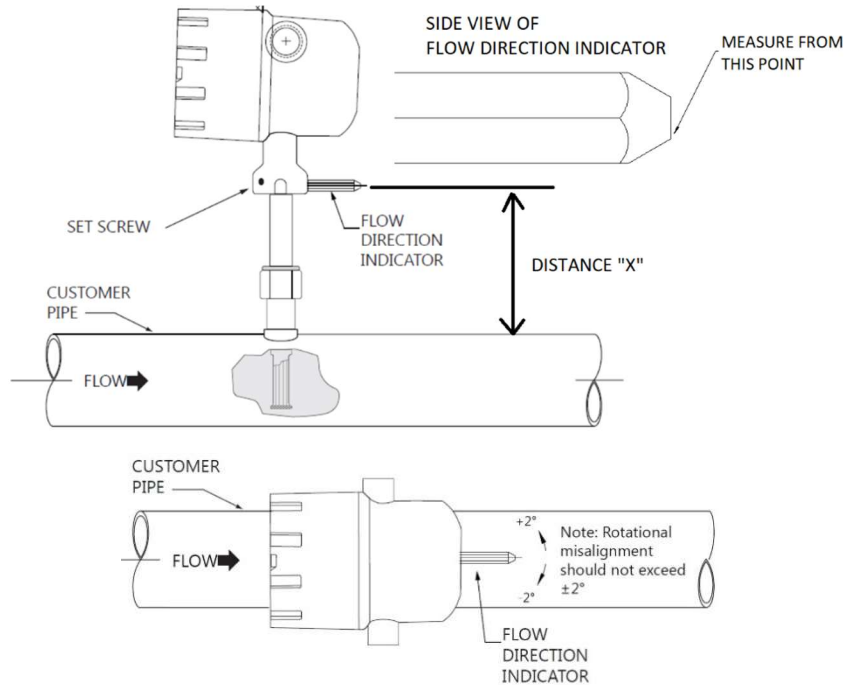

Figure 5: Meter Inserted into Pipe
- Insert the meter sensing tube into the packing gland. Using Table 1 and Figure 5, center the meter's sensing element in the pipe by setting distance "X" (distance from the outer diameter of the pipe to the bottom of the pointer edge). This can be done carefully with a tape measure. Ensure that the pointer on the flow meter is pointing in the direction of flow.